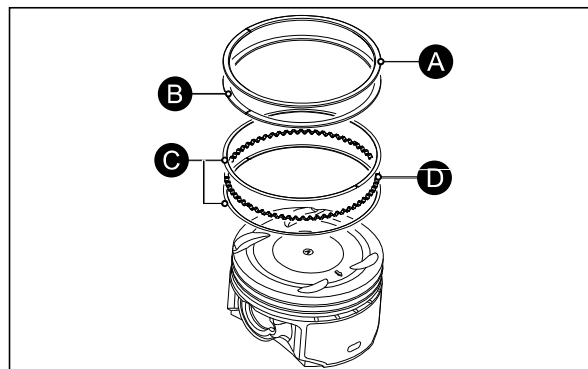

Fig. 3.91
- Remove the ring piston top (1st) (A), piston ring 2nd (B) and oil rails (C) along with spacer (D). (Fig. 3.91)